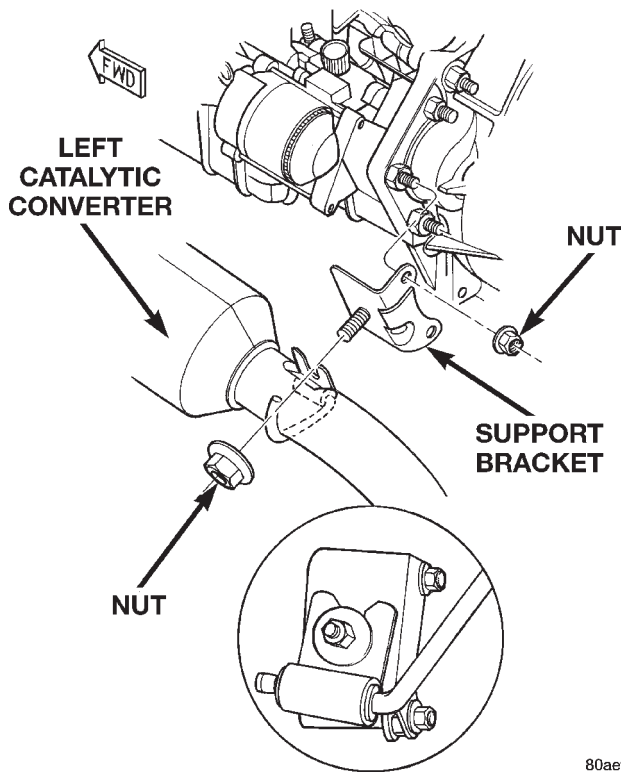

Fig. 8 Front Exhaust Pipe Support—Left Side
(5) Remove nut attaching left pipe to transaxle bracket. Remove U-bracket and isolator from the pipe hanger.
(6) Remove fastener attaching exhaust pipe front support to transaxle (Fig. 8). This will provide removal clearance.
- (1) Install converter.
- (2) Attach a NEW V-Band clamp and tighten to 11 N·m (100 in. lbs.).
(3) Install the front support U-bracket with isolator onto pipe hanger. Install front support fastener (Fig. 8).
(4) Install bolt attaching left pipe to transaxle rear bracket.
(5) Install downstream oxygen sensor and connect electrical connector.
(6) Install exhaust system.
(7) Lower vehicle.